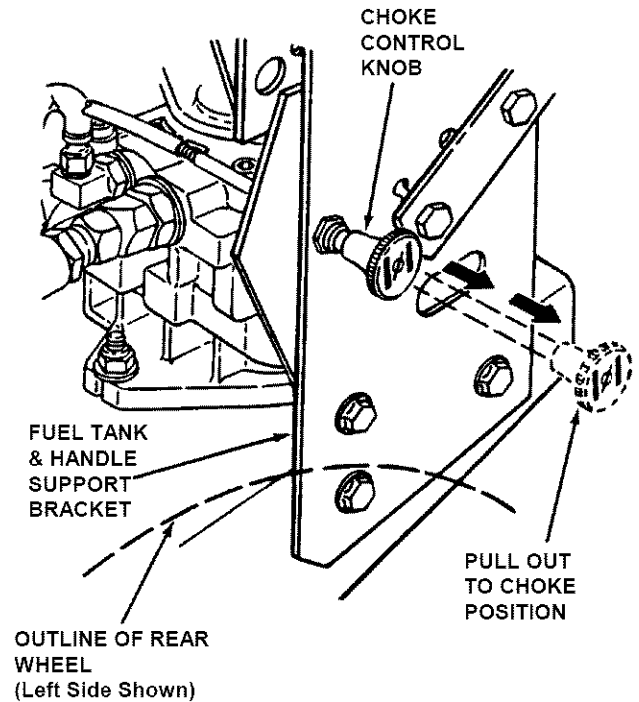

FIGURE 3.3
4. Pull Choke Control Knob, if so equipped, (shown attached to Fuel Tank and Handle Support Bracket on Left Hand side of machine) all the way out to CHOKE position. See Figure 3.3.